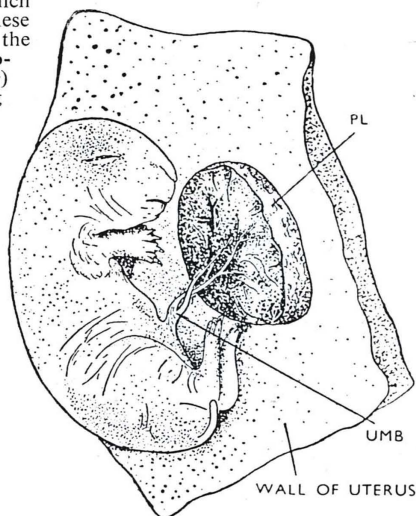

FIG. 132. RABBIT EMBRYO IN WOMB BEFORE BIRTH
In order to understand the processes of growth and reproduction, it is necessary to know something about how cells multiply in plants and animals. During ordinary *growth*, a single cell with its nucleus divides into two similar parts and these two halves separate and form two new cells. The division of the nucleus, however, is very complicated, and we shall only concern ourselves with its main features. Under the high power of the microscope, the nucleus is seen (Fig. 132) to become a mass of fine threads (1) which shorten and thicken (2) until they become rod-like bodies called *chromosomes*† (3). These chromosomes are very important, and *every cell of the same plant or animal has the same number of chromosomes*, which appear at every cell-division. For example, the *chromosome-number* for Man is 48, Cockroach—34, Cat—36, Mouse—40, Lily—24. Each chromosome then splits lengthwise into two exactly similar halves (4), and the two halves are pulled apart to opposite ends of the cell (5), to form two exactly similar groups of half-chromosomes (6). Each group of chromosomes now